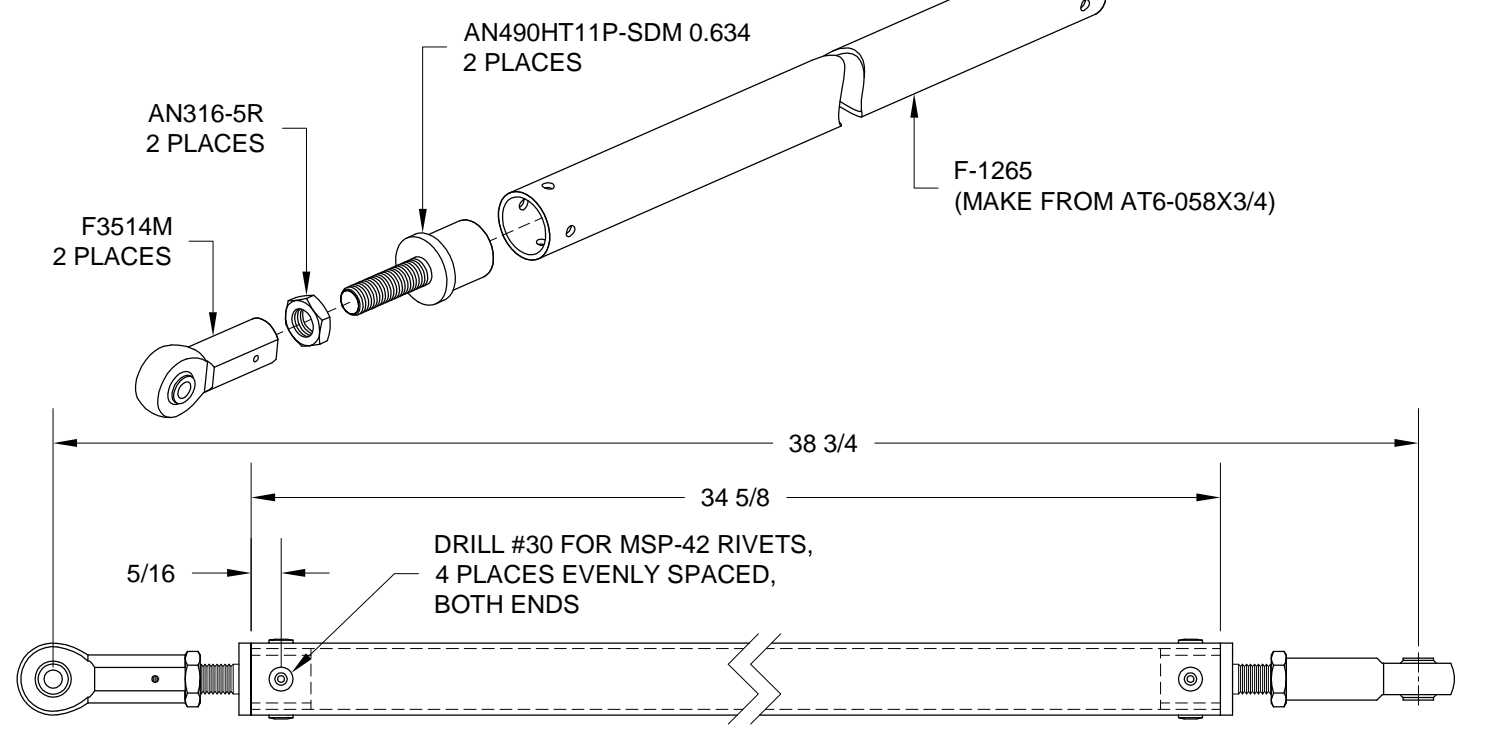

FIGURE 1: FLAPERON PUSHROD ASSEMBLY
Step 1: Make the two Flaperon Pushrod Assemblies using the F-1265 Flaperon Pushrods and the hardware called out in Figure 1. After drilling, remember to mark the parts for reassembly.